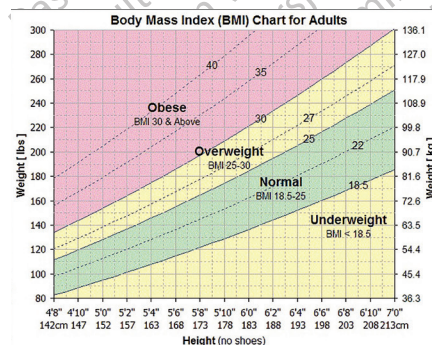

Figure 31. BMI Chart
- The **Patient ID** number is displayed at the top left of the screen. If the logged-in user is the doctor that performed the procedure, all patient information will be displayed. Note that the patient information also includes a calculated BMI based on the entered patient weight and height. If the  is pressed, the BMI chart is displayed (see Figure 31).